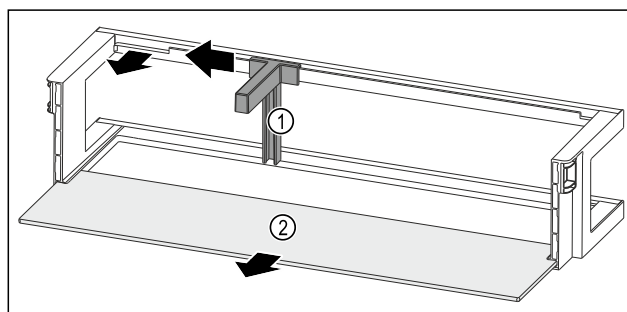

Fig. 259 Door rack with bottle holder and shelf
- ▶ Slide the bottle holder Fig. 259 (1) to the side as far as the recess.
- ▶ Remove the bottle holder Fig. 259 (1).
- ▶ Remove the shelf Fig. 259 (2).